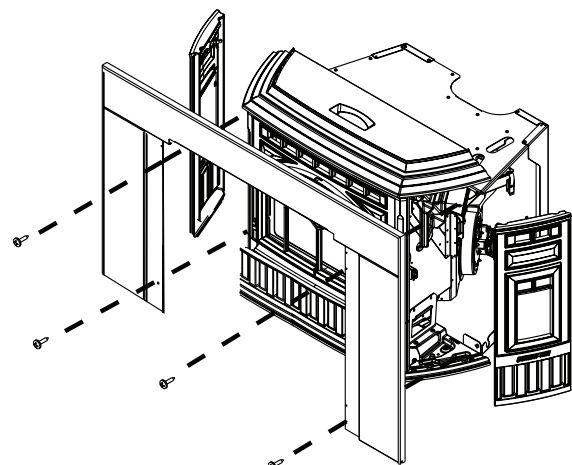

Figure 22.5
8. Remove both left and right cast sides from insert (**Figure 22.5**).
9. Carefully slide surround and trim over the top of the insert into place matching the mounting holes on the panel with the mounting holes on the insert. Secure with screws provided (**Figure 22.5**).
3. Remove the 2 cast sides and slide the assembled trim over the assembled surround set (**Figure 22.5**).
4. Carefully slide surround and trim over the top of the insert into place matching the mounting holes on the panel with the mounting holes on the insert. Secure with screws provided (**Figure 22.5**).